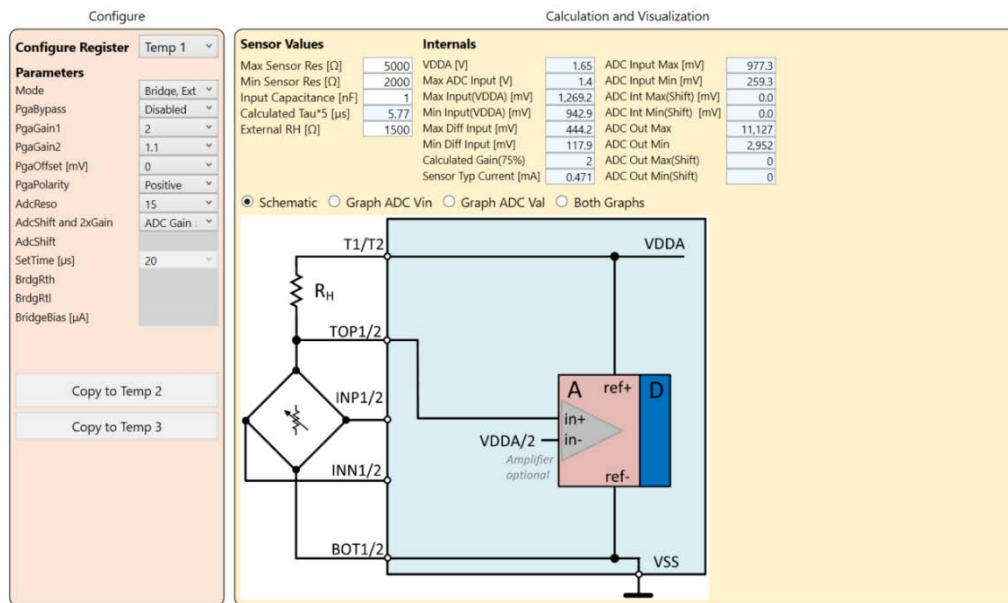

Figure 58. Mode Bridge External Bias
- Bridge, External Bias: The resistive bridge (used for the main measurement), is supplied by an internal voltage source through an external resistor (selectable by the “External RH”) (Figure 58).